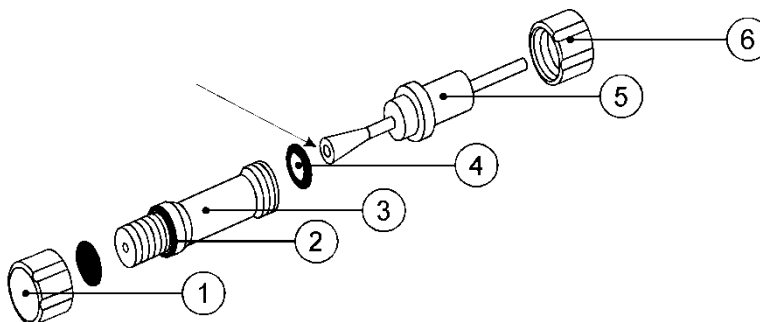

Fig. 23. Exploded view of the reference electrode. The arrow indicates the tip of the AgCl coated silver rod. See Table VII for description and numbers.
6. Fig. 23).
11. Fig. 23, arrow) has a non-metallic appearance by gently grinding it on sanding paper; also the AgCl can be gently resurfaced in this way.